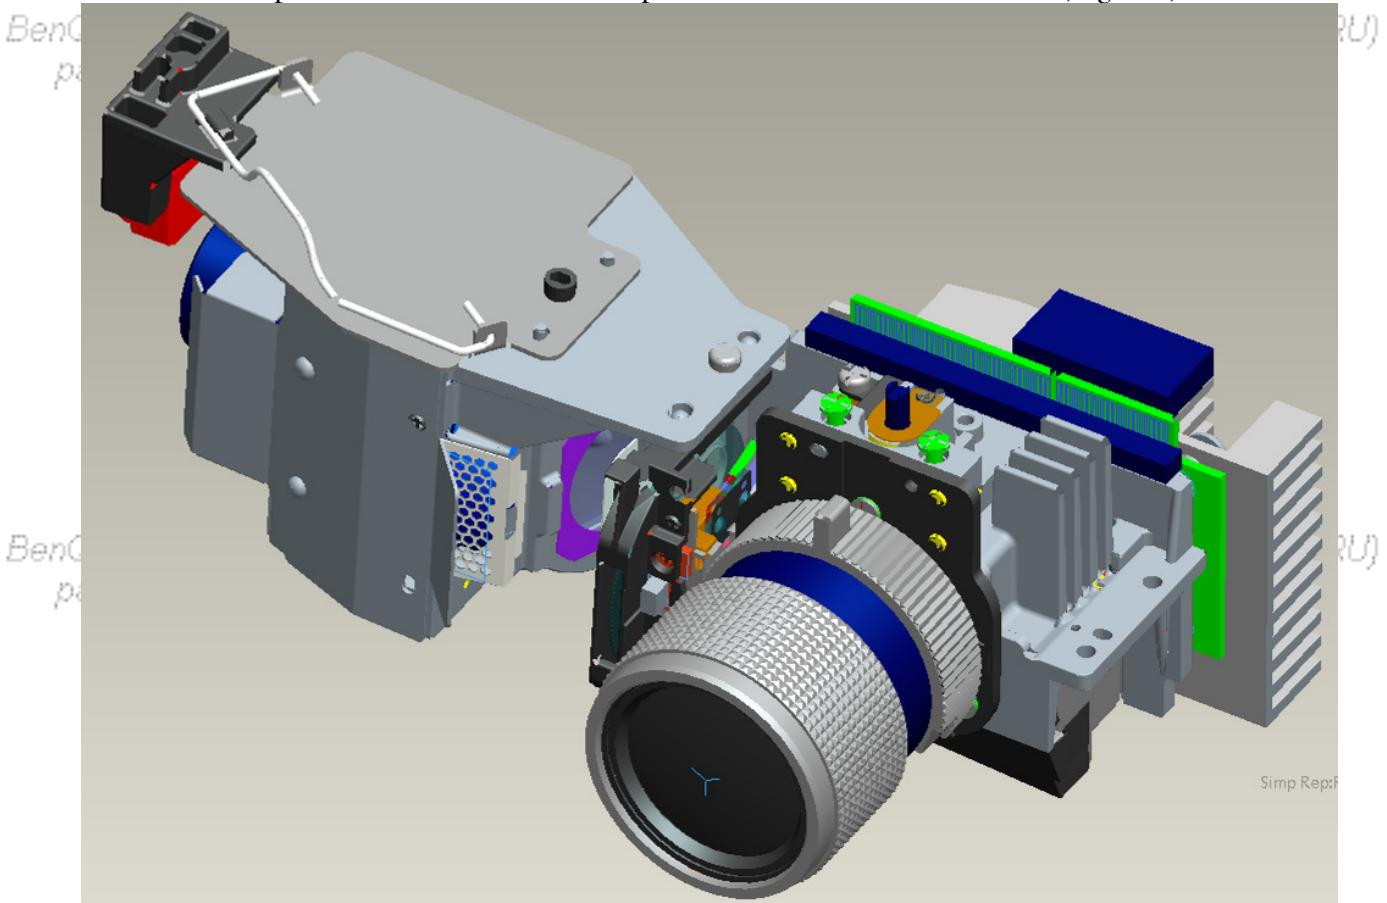

Fig.7-1
7. Assemble Lamp Module to “BKT Link Lamp” and then lock with screw well (Fig. 7-1).